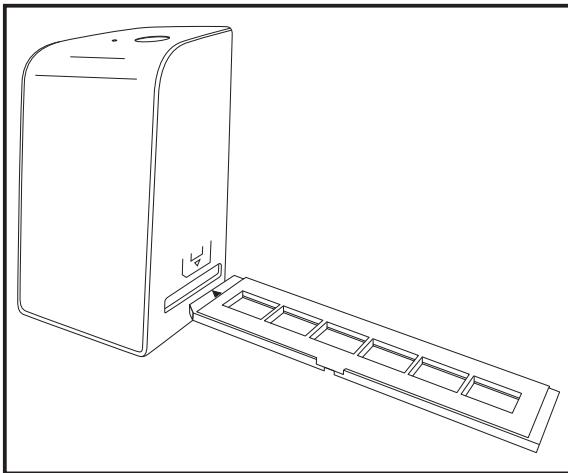

Figure 1
- ◆ Now insert the negative holder 5 with the triangle marking at the front and visible into the slot 4 on the right (see figure 1).